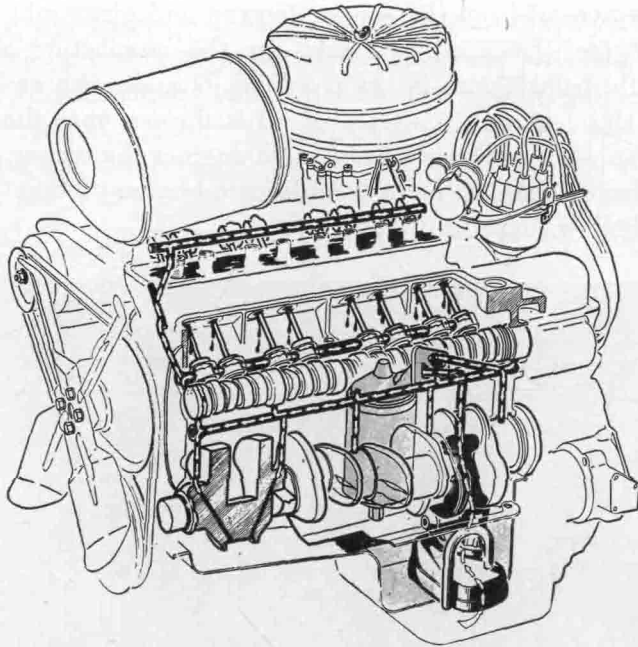

FIG. 11-13. Full-pressure lubrication system used on a V-8 overhead-valve engine. (Buick Division of General Motors Corporation)
2. *Full-flow filters.* The full-flow filter is so designed and connected that all the oil from the oil pump passes through it before it enters the oil lines to the engine parts. The filter used in the engine shown in Fig. 11-13 is of the full-flow type. This type of filter contains a spring-loaded valve that serves as a protection against oil starvation in case the filter becomes so loaded with contaminants that it will not pass enough oil. When this happens, the spring-